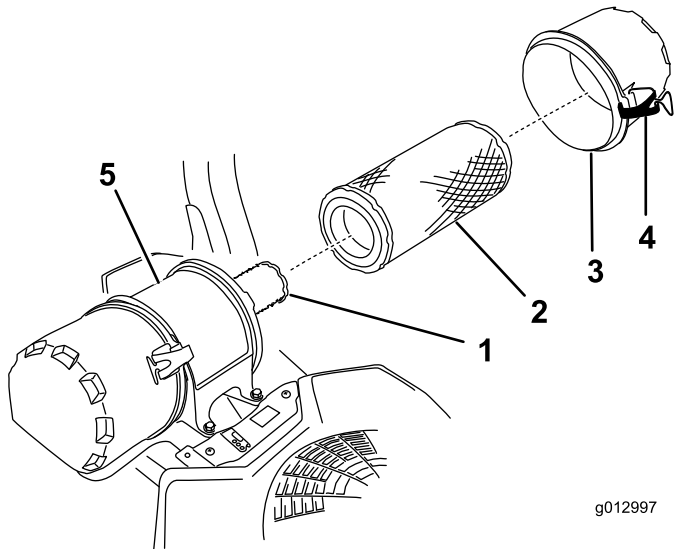

Figure 29
6. Release the latches on the air cleaner and pull the air-cleaner cover off the air-cleaner body (Figure 29).
8. Gently slide the outer filter out of the air-cleaner body (Figure 29).
- If you are replacing the inner filter, carefully slide it into the filter body (Figure 29).
- Carefully slide the outer filter over the safety filter (Figure 29).